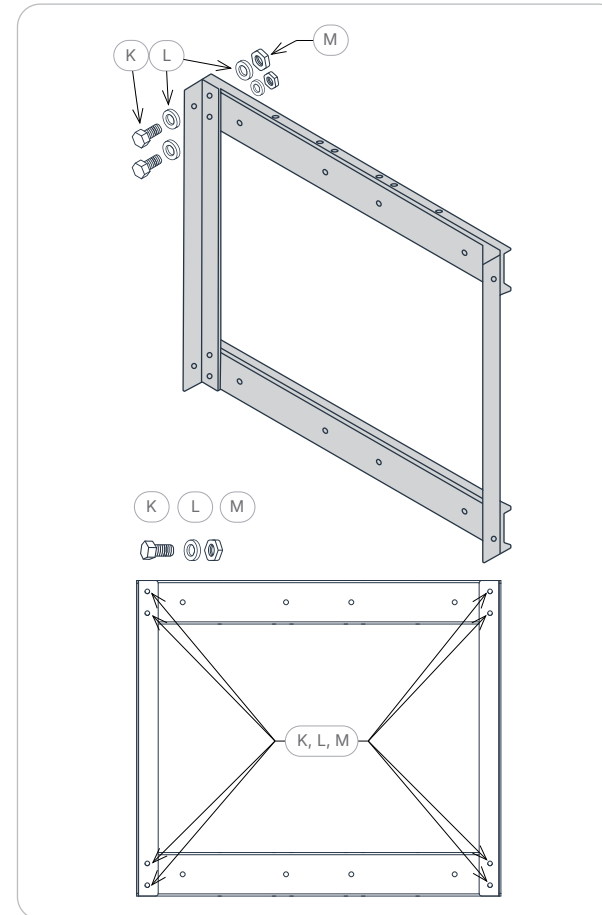

Figure 2. Corner and rear bracket assembly.
Assemble the **Corner (B)** and **Rear (C)** assembly as shown in **Figure 2** using **(K)**, **(L)**, and **(M)** as illustrated in **Step 1 Inventory of package**.